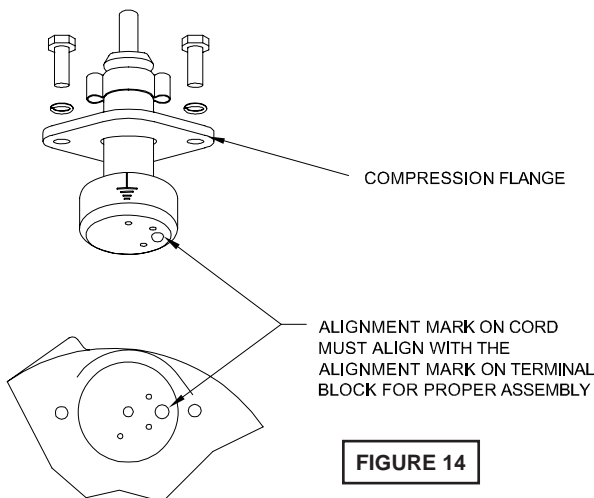

**FIGURE 13**
**Bearings** - When replacing bearing, be careful not to damage the rotor or shaft threads. Clean the shaft thoroughly. Press bearing (21) on the motor shaft, position squarely onto the shaft applying force to the inner race of the bearing only, until bearing seats against the retaining ring (20) (Included with motor).
**Motor** - Slide lower bearing (21) and motor shaft squarely into the seal plate (4) until bearing seats on the bottom. Place stator over rotor, lining up motor bolts with holes in seal plate (4). Position capacitor (8, single phase units) so that it will lay on the opposite side of the cable entry boss of the motor housing (5). Reconnect capacitor leads. Torque motor tie bolts to 17 in-lbs. Set square ring (23) in groove on seal plate (4).
Check power cable (13) for cracks or damage and replace if required (see Figure 13). Make internal wiring connections which are independent of the terminal block as shown, using connectors (36) as required. Do not use wire nuts. Slip motor leads and ground wire through fiberglass sleeve. Lower motor housing (5) down onto seal plate (4) while aligning holes and stringing motor leads through the cable entry bore. (Slipping cord inside a 1 ft. length of .5" conduit makes this easier). Place socket head cap screws (32) through seal plate (4) into motor housing (5) and torque to 60 in-lbs. Reconnect motor and leads to the underside of the terminal block (17), as shown in Figure 13. Note that the pins are numbered underneath the terminal block. Place o-ring (16) into groove in terminal block and lubricate with dielectric oil. Press the terminal block (17) into the housing so it seats completely below the snap ring groove. Place snap ring (15) into groove